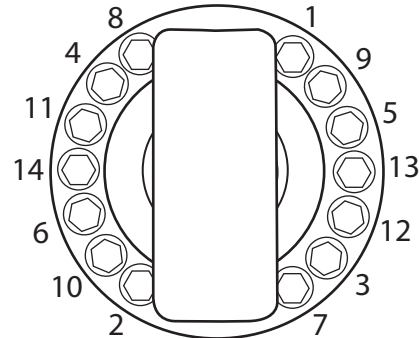

Fig 100.
- Tighten in order according to ⇒ Fig 100. \(□ E-206\).